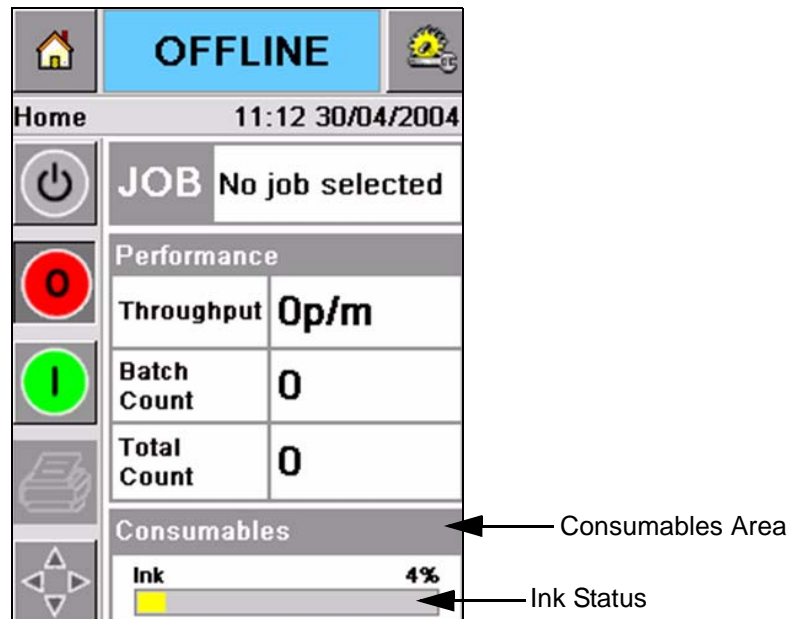

Figure 4-7: Consumables Area
The Consumables area of the *Home Page* screen displays a percentage value of ink that is left in the ink canister of the printer. For example refer to Figure 4-7 on page 4-7.
The ink must be added when the ink low level warning appears on the CLARiTY[®] screen. The ink status bar must show less than 5% (Figure 4-7). The ink status shown on the status bar makes sure that the present ink canister is replaced after the present canister becomes empty.
- 1 Touch the *Consumables* area on the *Home Page* (Figure 4-7 on page 4-7). The *Consumables* page appears (Figure 4-8).